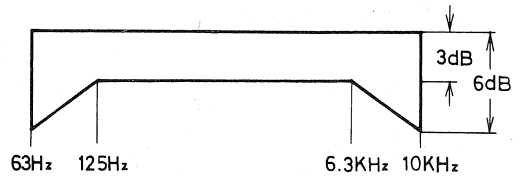

Fig. 21
3. Play the third band (6.3kHz) of test tape, adjust VR201 (L channel) and VR301 (R) for an output reading of 230mV (−10dB).
5. Fig. 21 shows specified playback frequency response.